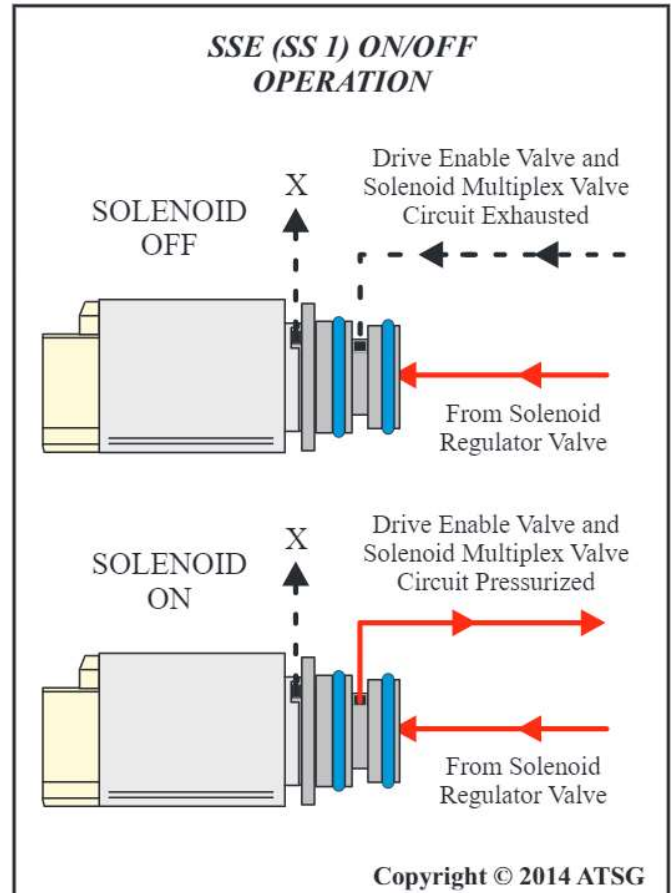

Figure 18
The primary function of SSE is to control valves in the main control valve body assembly in order for SSD to perform its dual purpose function. Refer to Figure 12 it will be noticed that SSE operates or is ON only in Drive 4, 5, 6 ranges. The solenoid remains OFF in all other ranges. Refer to Figure 18. Hydraulic solenoid control pressure is supplied by the solenoid regulator valve in the main control assembly and is directed to the opening in the front of the solenoid. When SSE is OFF solenoid control pressure cannot pass through the solenoid and the passage in the solenoid between the o-rings is open to an exhaust and exhausts pressure from the Drive Enable Valve and Solenoid Multiplex Valve Circuit. This allows SSD to control apply and release of the low/reverse (D) Clutch. When SSE is ON solenoid control pressure passes through the solenoid and pressurizes the Drive Enable Valve and Solenoid Multiplex Valve Circuit. This allows SSD to control the apply and release of the overdrive (E) Clutch.